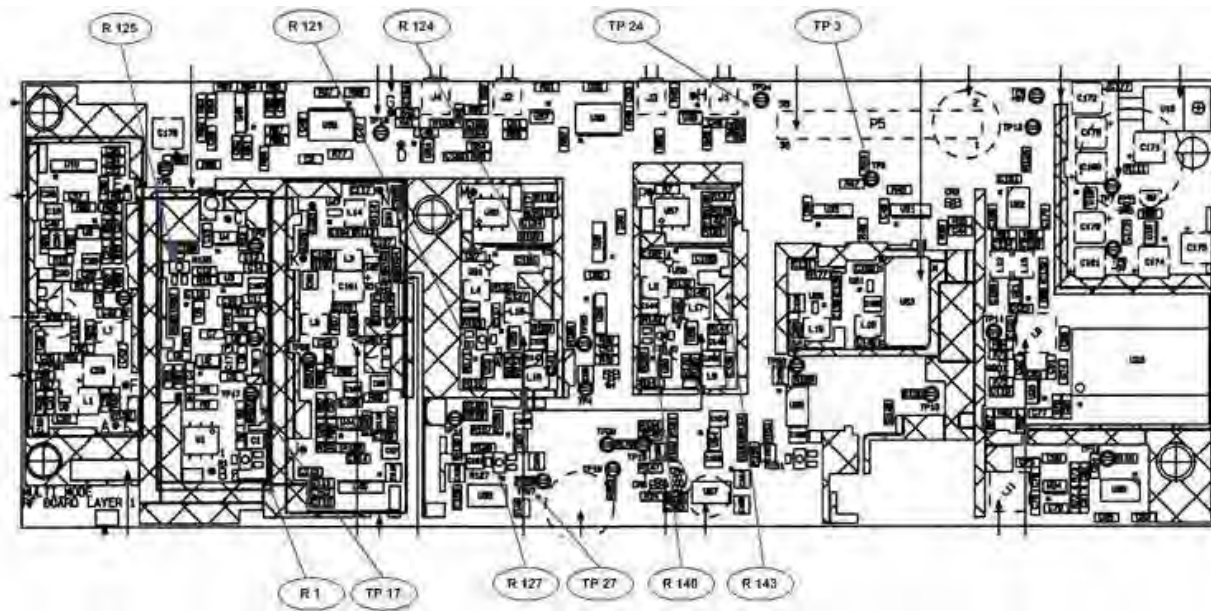

Figure 3. RF PCB.
- f. Replace cover of Digital PCB with four (4) screws.
- m. Externally trigger oscilloscope using TP3 on RF PCB shown in figure 3.
(1) Connect Ext Trigger of pulse generator to TP3 on RF PCB shown in figure 3.
(2) Set pulse generator period to 20.3 μ s, delay to 12 μ s, pulse width to 450.0 ns, leading and trailing edge to 5 ns, amplitude to +4 volts Hi / +0 volts Low, input impedance 50 Ω , external trigger, trigger mode to Burst, trigger level to Auto Level.
(3) Connect output of pulse generator to the pulse in connector of the synthesized signal generator. Do not disconnect unless instructed to do so.
(4) Set synthesized signal generator frequency to 1090 MHz, pulse modulation, and +0 dBm output (account for cable loss).
(5) Connect synthesized signal generator output to the **ATT** connector cable using adapter and cable.
(6) Set TI **UUT FUNCTION** switch to **XPDR** position.
(7) Turn on TI while holding down the **DEL 135/EMERGENCY** switch.
(8) Toggle **TEST** switch to **AUTO** until TI display indicates the following: